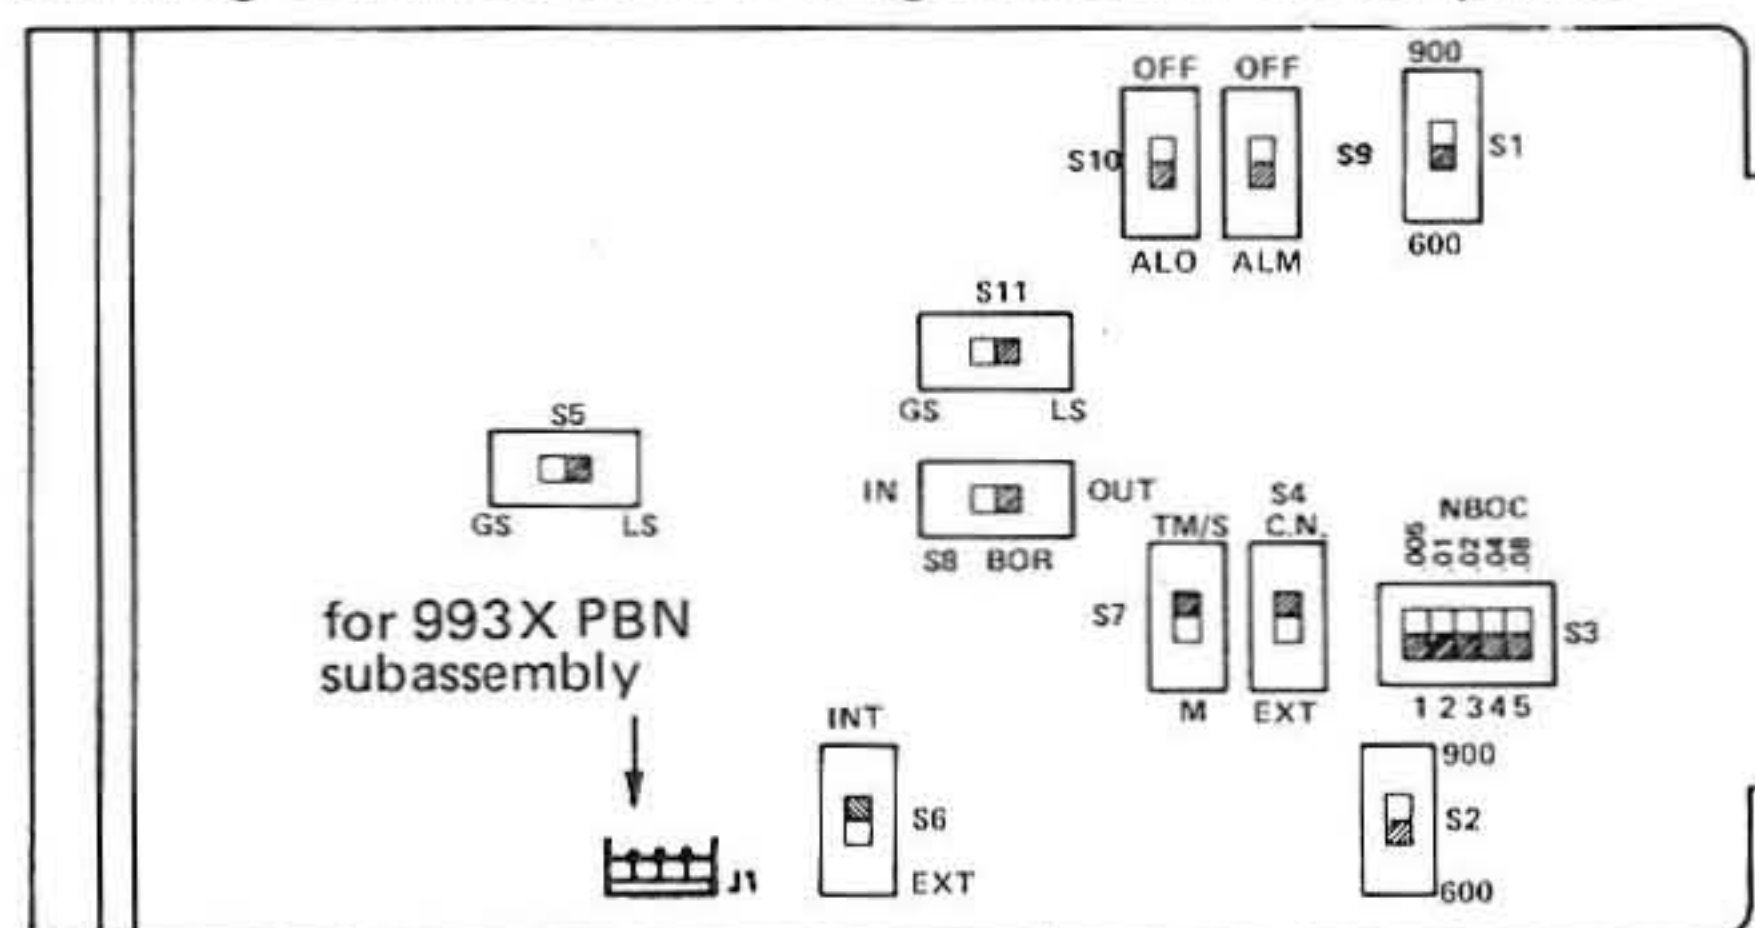

figure 3. Option switch locations
3.05 All 6923 option selections are made via slide switches or DIP switches located as shown in figure 3. Table 6 lists all options and indicates the option choices, which are explained below. The 6923 should be completely optioned and its optioning verified before alignment is attempted.